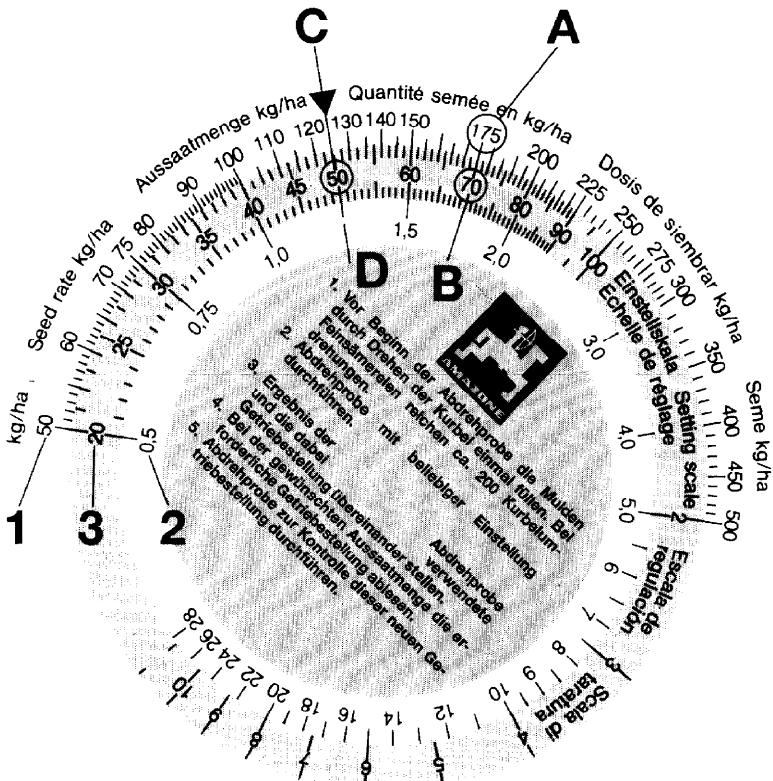

Fig. 3
Determination of the gearbox scale setting No. with the aid of the seed rate calculation disc rule (Fig. 3)
If the first calibration test does not bring the desired seed rate, the new gearbox scale lever setting for the correct seed rate can simply be determined by the enclosed seed rate calculation disc rule (Fig. 3). This disc rule consists of 3 scales: One outer white scale (Fig. 3/1) for all seed rates above 30 kg/ha and an inner white scale (Fig. 3/2) for all seed rates below 30 kg/ha. On the middle coloured scale (Fig. 3/3) the gearbox lever scale setting No.'s from 1 to 100 are indicated:
- Now turn the inner disc until the obtained seed rate of "175 kg/ha" (Fig. 3/A) is in line with the related actual gearbox lever setting No. of "70" (Fig. 3/B).
- Now read off the disc rule the necessary gear box lever setting No. for the required seed rate of 125 kg/ha (Fig. 3/C). In our example the correct setting No. is "50" (Fig. 3/D).